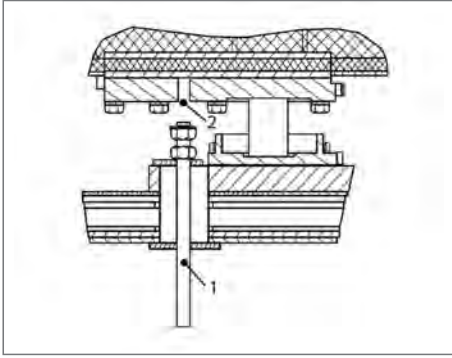

Figure 79
3. Unscrew the threaded rod (Fig. 79 | 1) out of the threaded hole on the Palletank® (Fig. 79 | 2).
5. Unscrew the threaded rod (Fig. 79 | 1) and remove it from the bottom.